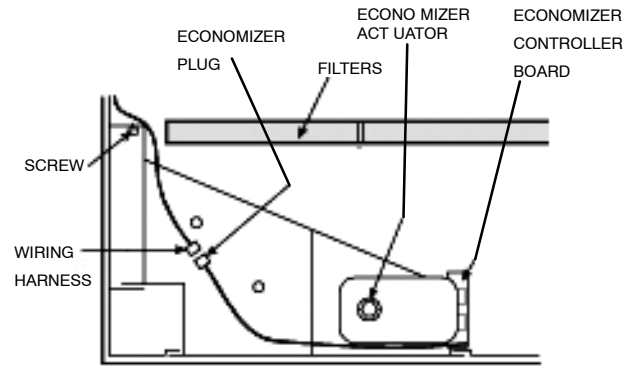

Fig. 7- Top View of Economizer
10. Install a screw through the pre-punched hole in the Economizer into the flange on the horizontal duct opening. See Fig. 7.
11. Remove and save the 12-pin jumper plug from the unit wiring harness (located in the upper left corner of the unit). Insert the Economizer plug into the unit wiring harness. See Fig. 7. Refer to Fig. 8 for wiring diagram. NOTE: The 12-pin jumper plug should be saved for future use, in the event that the Economizer is removed from the unit. The jumper plug is not needed as long as the Economizer is installed.